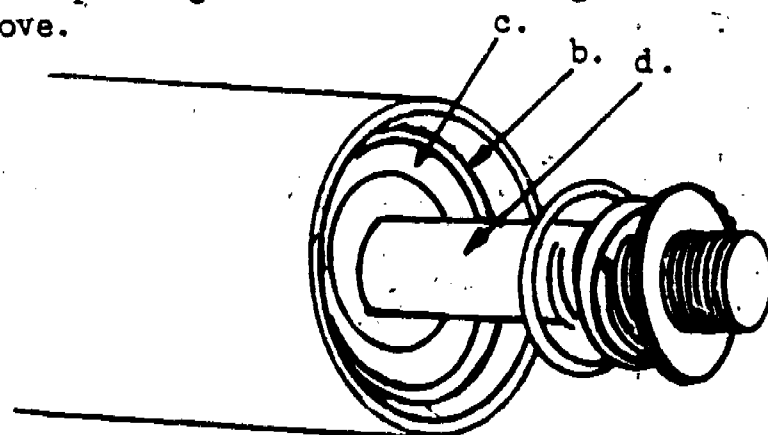

Figure 3.
STEP 6. Loosen packing from around bearing (Item b in Figure 3) and remove.
STEP 7. Remove bearing (Item c in Figure 3) from cylinder barrel and piston rod (Item d in Figure 3).